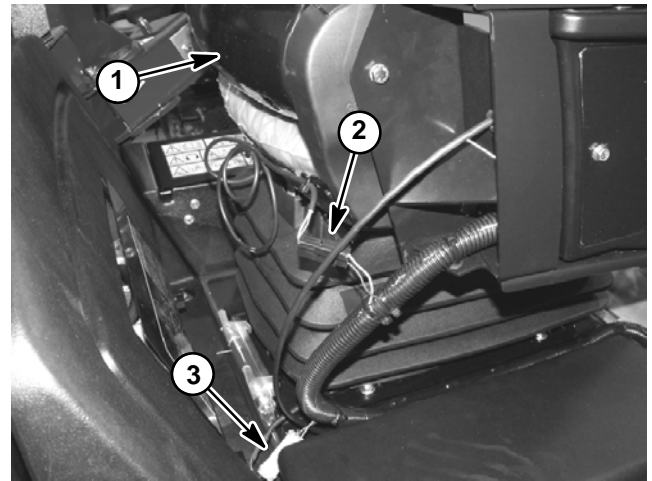

Figure 8
2. Disconnect seat electrical connector from machine wire harness (Fig. 8).
4. Remove flange nut (item 29) and carriage screw (item 32) that secure support bracket (item 30) to support channel (item 31).
5. Remove cap screw (item 37) that secures console arm support (item 35) to coupling nut (item 38).
6. Remove cap screw (item 33), flat washers (item 20), spacer (item 36) and seat belt latch (item 39) from seat and console arm support (item 35).
A. Secure support bracket (item 30) and support channel (item 31) with flange nut (item 29) and carriage screw (item 32).
B. Secure console arm support (item 35) to coupler nut (item 38) with cap screw (item 37).
C. Place flat washer (item 20), seat belt latch (item 39) and spacer (item 36) between seat and console arm support (item 35). Secure with cap screw (item 33) and second flat washer (item 20).
4. Connect seat electrical connector to machine wire harness (Fig. 8).